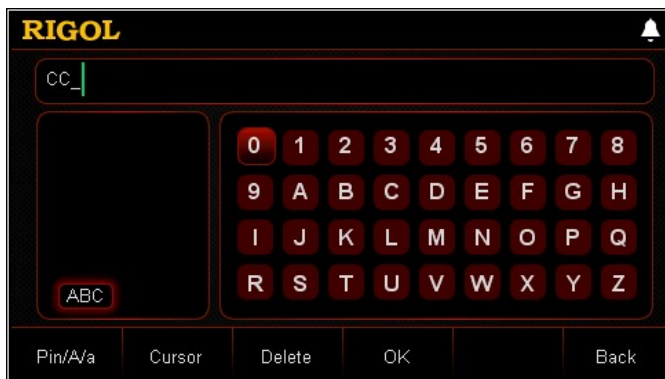

Figure 2-51 Filename Input Interface (uppercase English letters)
- Uppercase/lowercase English letters (as shown in Figure 2-51): You can switch the letter input method to select whether to input the English letters in uppercase form or lowercase form. Use the arrow keys or the knob to select the desired English letter in the virtual keypad, and then press **OK**. The selected letter will be displayed in the "Filename Input Area". Use the same method to input other English letters for the filename.